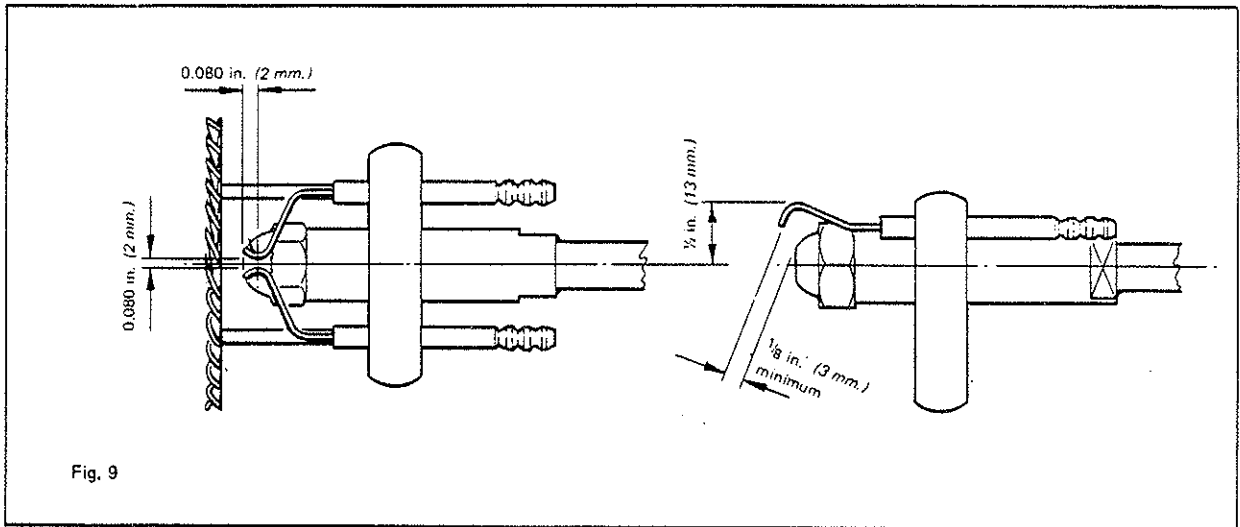
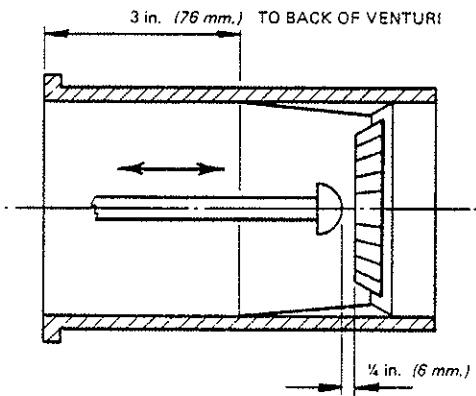

Fig. 9
Fig. 10
5. Remove burner inner assembly and check that the electrodes are set in the correct position. (See Fig. 9). Ensure correct nozzle is fitted to burner and diffuser and air cone are positioned correctly. (See Fig. 10).